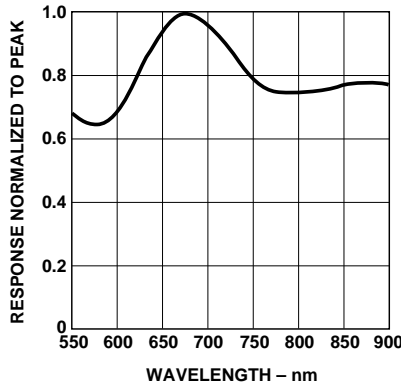

Figure 6. Relative Spectral Response of Sensor.
- Sensor contains no ambient light filtering—see Figure 6 for relative response of detector. In bright ambient light conditions, LED signal may be a small portion of total signal. AC coupling and additional signal processing may be necessary. Reference Application Note 1040.